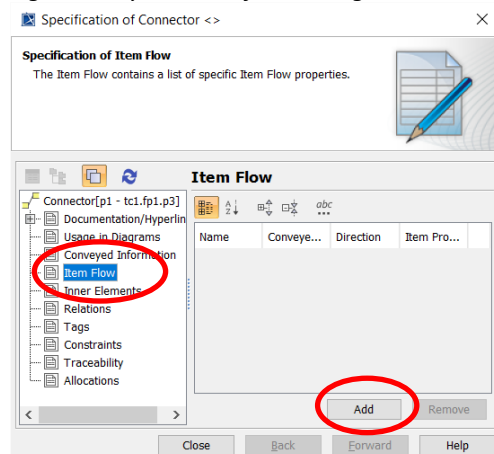

Figure 8 Adding Item Flow
- Open the specification window for the connector and choose Item Flow from lefthand list (Figure 8).